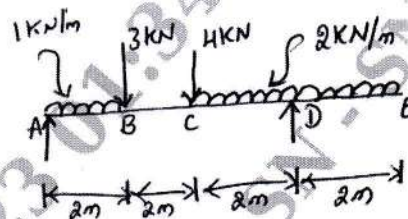

Fig. Q5 (b)
- 5 a. Deduce the relationship between relating load (W), Shear Force (F) and Bending moment (M). (06 Marks)
- b. For the beam shown in Fig. Q5 (b), draw SFD and BMD. Locate the point of contraflexure, if any.